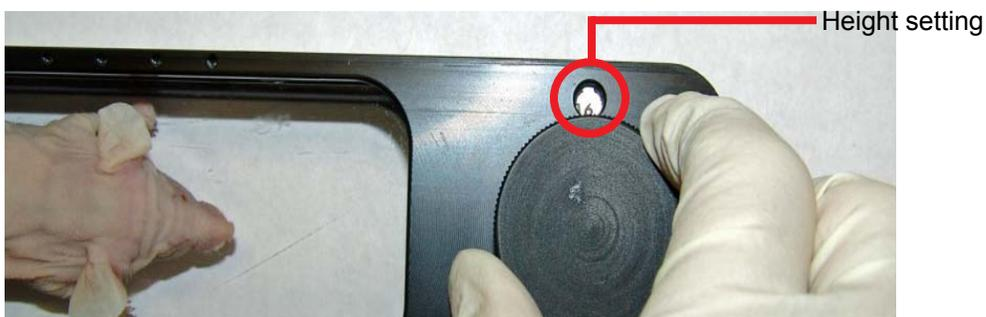

Figure 4-4. Height setting
6. Tighten the height adjustment knobs to obtain mild compression of the subject (see Figure 4-4). For average mice, tighten the knobs 13 to 15mm.